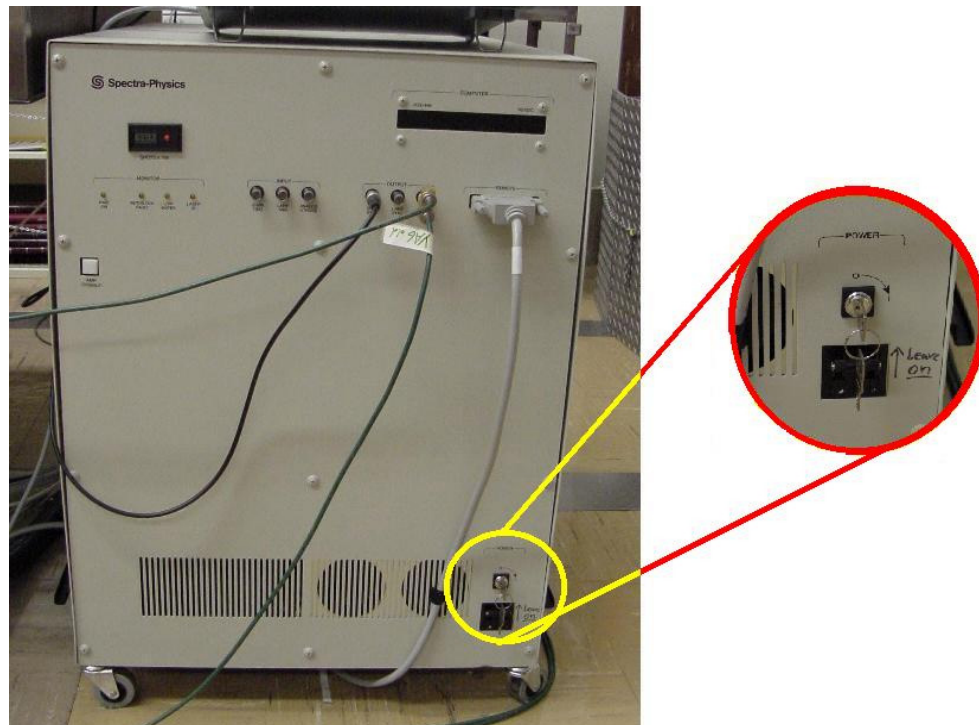

Figure 5: Picture of Power Supply and where the key is located. In the above picture, the key is in the OFF position.
6. **Turn the key on the laser power supply to ON.** The switch below the key should always be left on to warm the crystal. (See Floor Plan ⑤ on pg. 1 and Figure 5)